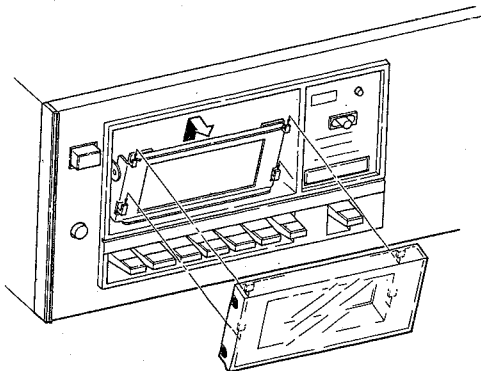

Fig. 4-1 Cassette Cover Removal
1. Remove the Top Cover by removing eight screws (A).
2. Depress the EJECT Key and grasp the Cassette Cover with both hands and lift up to remove, referring to Fig. 4-1.
5. Remove the Front Panel by removing six screws (B).
6. Remove the Bottom Cover by removing screws (D).